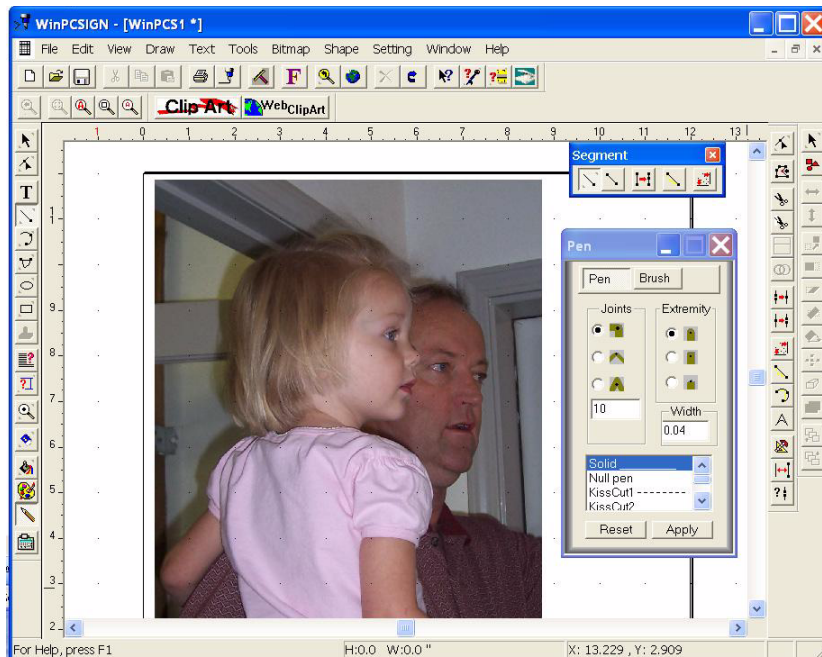

Figure 113
- 1 Double click on the **Segment from Path** tool to open the **Segment** toolbar. See figure 113.
- 3 Click the **Pen and Brush** tool to open its window. See figure 113.